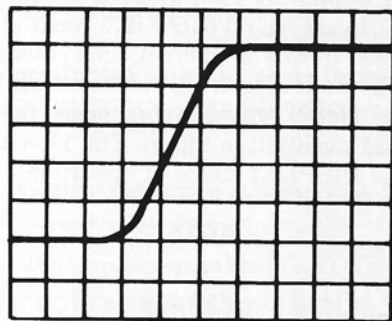

Figure 11. Fast Rise Time, Low Rep Rate Signal "Integrated Up" with PERSISTENCE Control
4. Turn PERSISTENCE 6 slowly clockwise. Observe transition portion of waveform gradually integrates up to bright, easily observed trace (see figure 11).